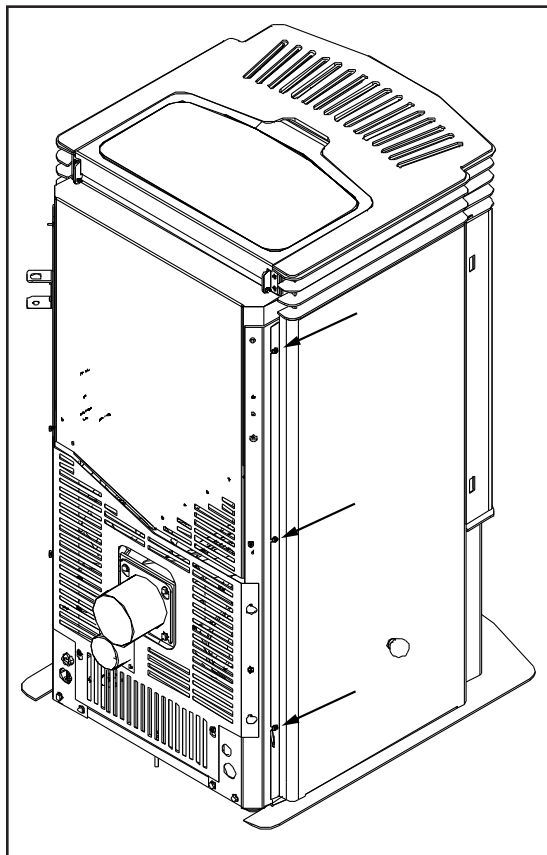
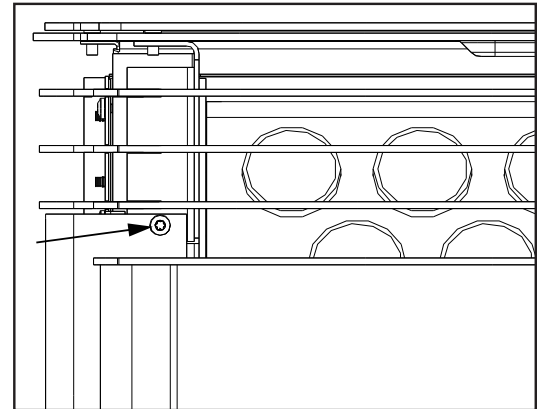
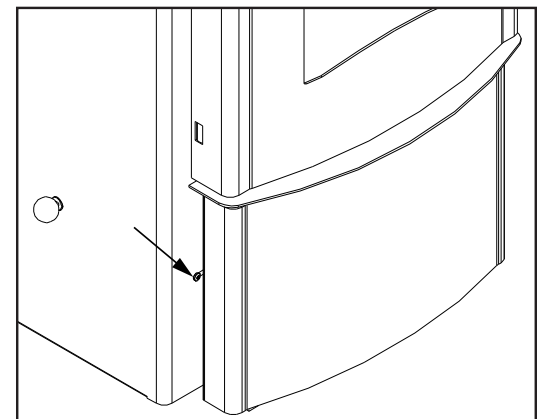
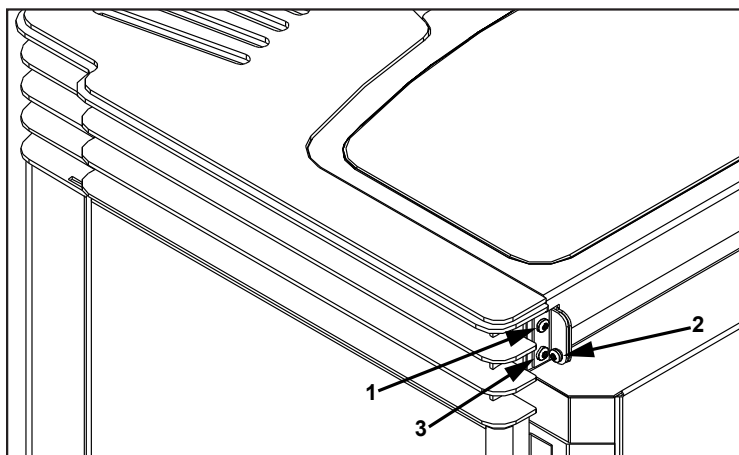

Figure 32: Screws at back of the cab side.
Figure 30: Screws above door top corner.
Figure 31: Screw behind ash box.
Figure 33: Installing Hopper Lid.
1. Remove the screws above the door on both sides (Figure 30).
2. Ensure the screws behind the ash box, one on each side (Figure 31) and the three (3) on each side at the back (Figure 32) are loosened.
3. Slide the three (3) slots at the back of the cab panels under the three (3) screws at the back.
1. Attach the hopper brackets to the back of the unit with a screw in each top hole of the brackets (#1 in Figure 33). Do not tighten these screws until all six (6) screws are in place.
2. Lay the hopper lid in place, slide the bushing into the bracket, and attach the lid to the brackets (#2 in Figure 33). The screw must go through the bushing in the bracket then into the hopper cover.
3. Install the screw in the bottom hole on both brackets (#3 in Figure 33).
4. Let the hopper lid lay flat on the stove top then tighten the four (4) bracket screws.
2. Remove both cab panels. Remove the screws above the door on both sides (Figure 30) and ensure the screws behind the ash box, one on each side (Figure 31) and the three (3) on each panels at the back (Figure 32) are loosened. Slide the front of the cab panels out then slide the back of the cab panels out from under the three (3) screws at the back (Figure 33). Note: The slider knob will need to be removed if installed.